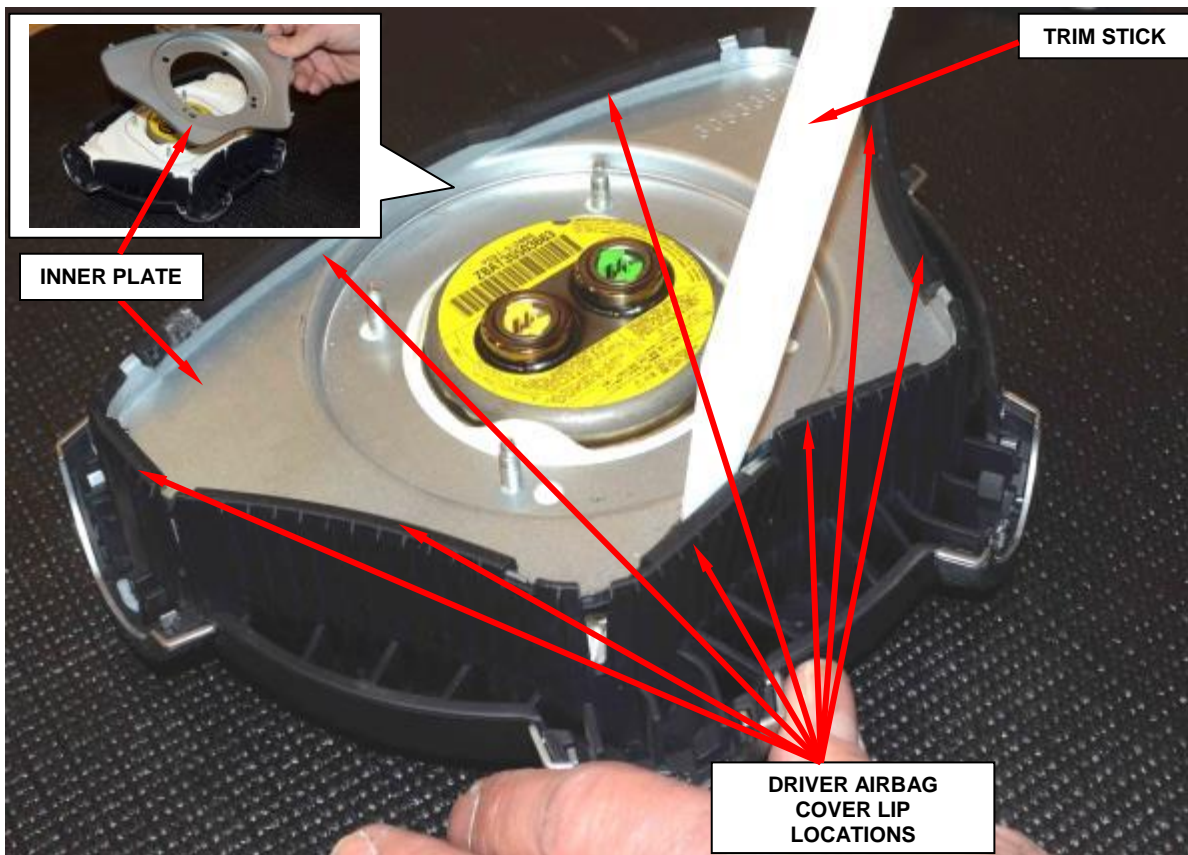

Figure 6 – Inner Plate Removal
10. Lift the driver airbag cover lips off of inner plate by using a trim stick starting at the 6:00 position, followed by the 3:00/9:00 positions, and then at the 12:00 position. It is helpful to lightly push the inner plate into the cushion pack during this process (Figure 6).
11. Remove and save the inner plate (Figure 6).